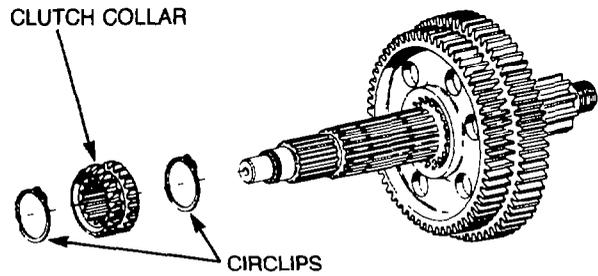

Figure 177 — Installing Second/Third Gear Clutch Collar
- g. Lubricate the second/third gear clutch collar, then install the clutch collar, together with new circlips, onto the mainshaft (see Fig. 177).